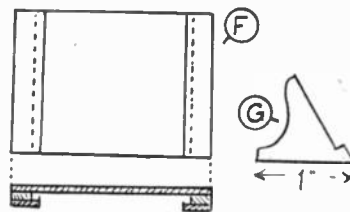

Fig. 3
The date pad fitting is, of course, optional, but worth the trouble of adding, not only for its usefulness, but also as a slight embellishment. The parts for this are drawn in Fig. 3, and consist of a holder (F), with a pair of supporting brackets (G). No dimensions can be given, as the holder must be made to suit the particular size of date pad in possession of the reader. The most useful of the pads are those of the perpetual variety, printed on celluloid sheet. A set could probably be obtained or ordered from most stationers.